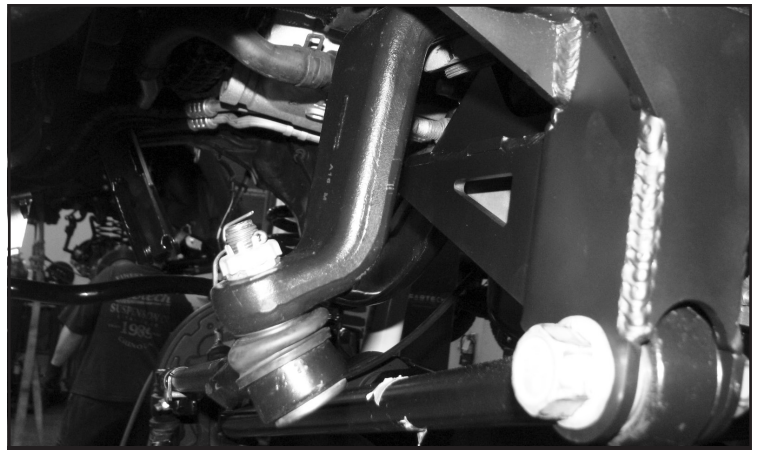

FIGURE 16 - STEP 22
22. Reinstall the track bar to the new frame bracket. Torque to 400 ft-lbs. Install the drag link to the new Fabtech pitman arm using the factory hardware and the new supplied cotter pin. Torque to 70 ft-lbs. **NOTE: The drag link will need to be rotated 180 degrees and installed from the bottom side of the pitman arm. SEE FIGURE 16**